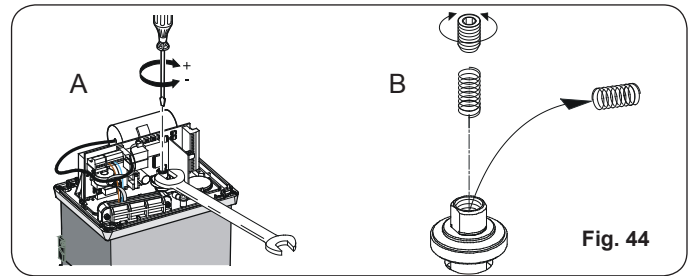

Fig. 44
- Keep the motor shaft locked with a wrench and turn the clutch adjustment screw with an Allen wrench or screwdriver as shown in Fig. 44 Ref. A.
- **The operator is supplied as standard with a clutch adjustment spring for gates up to 2200 lbs. For heavier gates, use the supplied alternative spring. For spring replacement instructions, see Fig. 44 Ref. B.**